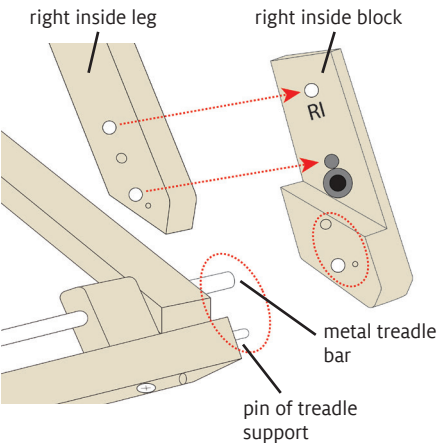

FIGURE 10: IDENTIFY HOLES ON INSIDE BLOCKS
18. Identify the height extender blocks for the inside legs, marked LI and RI. The top two holes of each block line up with holes at the bottom of the inside leg (Figure 10). The lowest holes in the block attach to the treadle assembly.
25. From inside the loom, insert a 1/4-20 x 1-3/4" Phillips truss head machine screw through the second hole from the bottom of the inside leg, into the top hole of an inside height extender block, as shown in Figures 10 and 13. From the outer side of the height extender block, add a 1/4" flat washer and a 1/4-20 lock nut to the shaft of the machine screw. Use a wrench to tighten the lock nut as firmly as possible. Repeat on the other side of the loom, for the other inside height extender block.